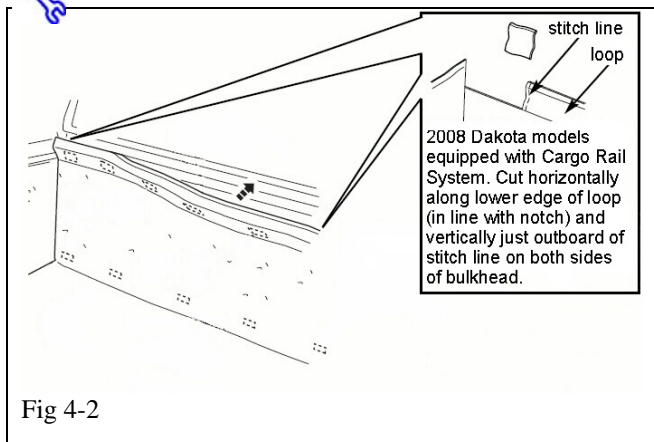

Fig 4-2
- (b) If a bedrail is present, trim off sections in the corners of the bulkhead. (Fig. 4-2) If not, proceed with step 5.